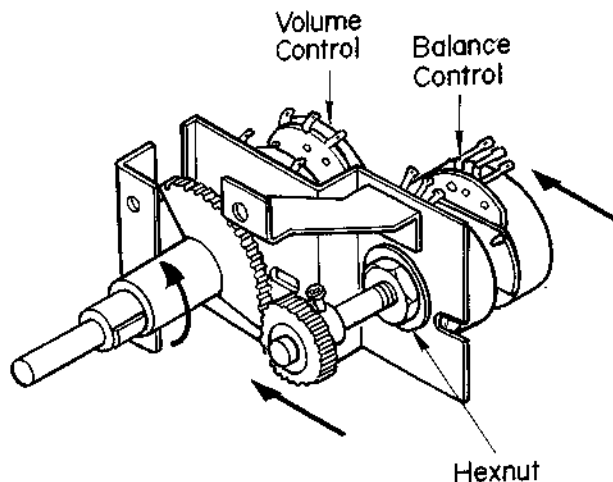

Fig. 2-14
- (1) Take off the sector first, then remove the gear by loosening two set screws.
- (2) Remove the hexnut screw that secures balance control.
- (3) To reassemble the balance control lever, setting of sector and gear is needed. Follow the next procedures.
- (4) Mount the balance control on the bracket. Do not tighten the hexnut firmly.
- (5) Turn the balance control shaft fully clockwise and install the gear.
- (6) Install the sector on to the volume control shaft and turn the sector fully counterclockwise but set it at the position having a little clearance between sector end and bracket, then move the balance control itself to be in gear with the sector as shown in Fig. 2-14.
- (7) Tighten the hexnut of balance control.